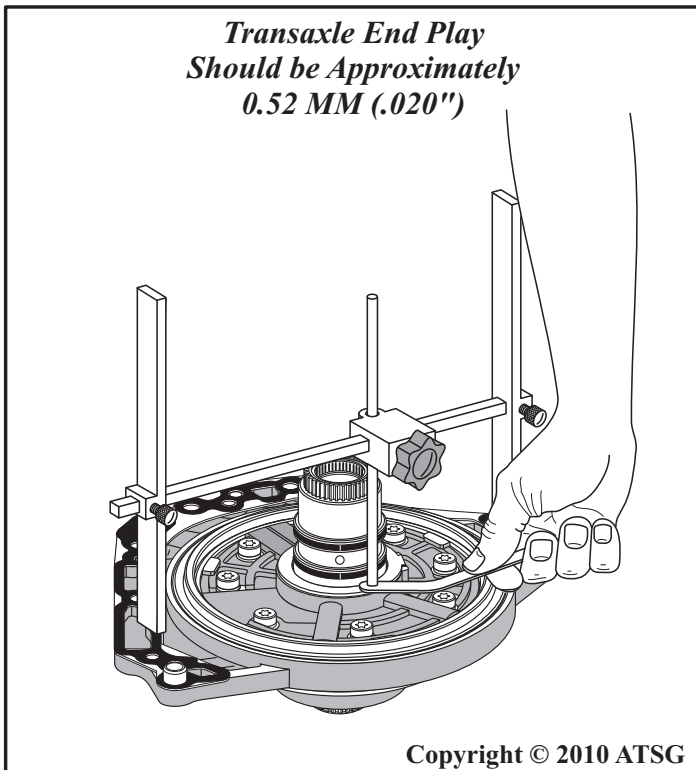

Figure 186
47. Now turn the "H" gage over and set it on the completed oil pump assembly, **"with"** the new design gasket and number 1 thrust washer in place, as shown in Figure 186.
48. Measure with feeler gauge between adjustment rod and the number 1 thrust washer, as shown in Figure 186, to determine transaxle end-play.